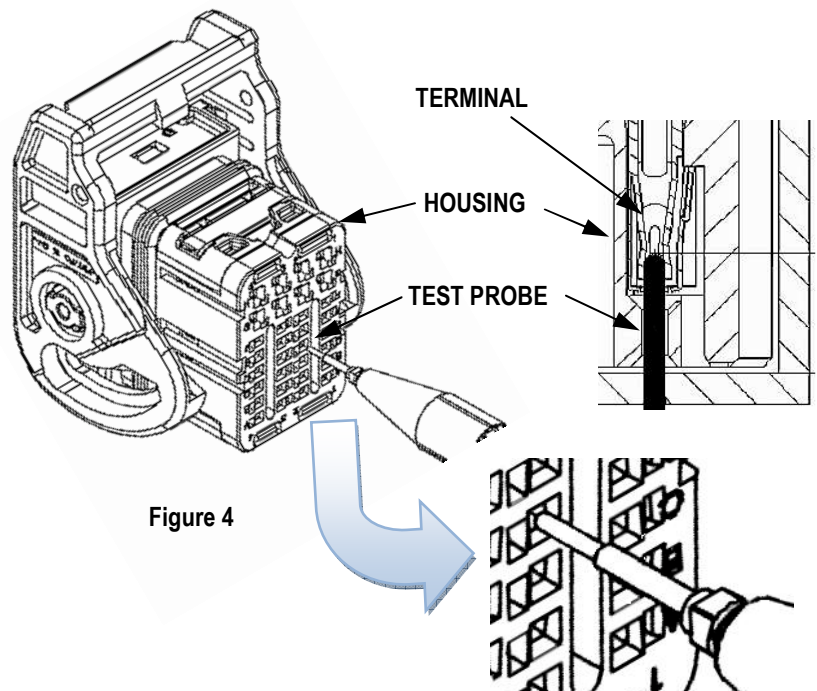

Figure 4
- Gently insert the test probe into the 0.635 terminal cavity on the connector housing. See Figure 4.